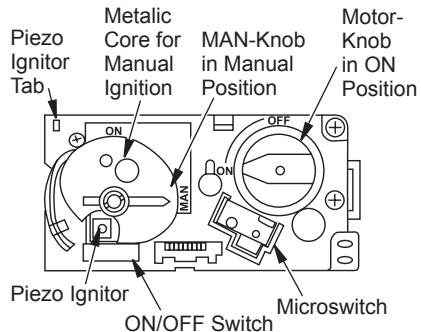

Figure 17 - PJD Control Valve
4. Wait (5) minutes to clear any gas and then smell for gas around heater and near floor. If you smell gas, STOP! follow "B" on page 14. If you do not smell gas, go to the next step.
5. Make sure ON/OFF switch is in "-" (ON) position.
6. MAN-knob (valve) in MAN position, a metallic core is visible. (see Figure 17).
1. Disconnect ignitor cable from receiver and connect to Piezo Ignitor Tab (see Figure 17 and Wiring Diagram on page 24).
5. Wait (5) minutes to clear any gas and then smell for gas around heater and near floor. If you smell gas, STOP! follow "B" on page 14.
7. MAN-knob on valve is in MAN position (see Figure 17), When in MAN position you can see a metallic core.